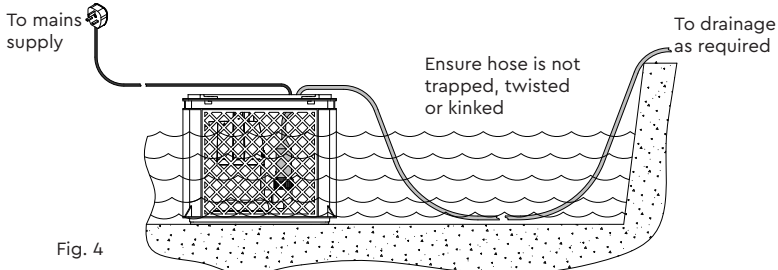

Fig. 4
- 5. Place unit in flood water (Fig. 4).